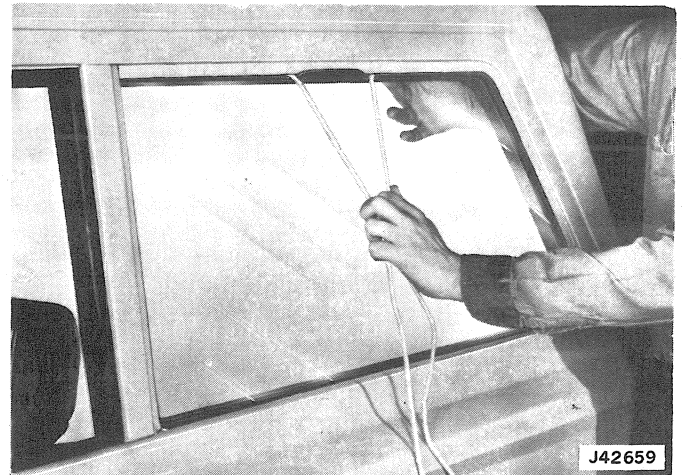

Fig. 3K-3 Rear Quarter Window Installation
(3) Place glass and weatherstrip into position in window opening with ends of cord hanging outside vehicle (fig. 3K-3).